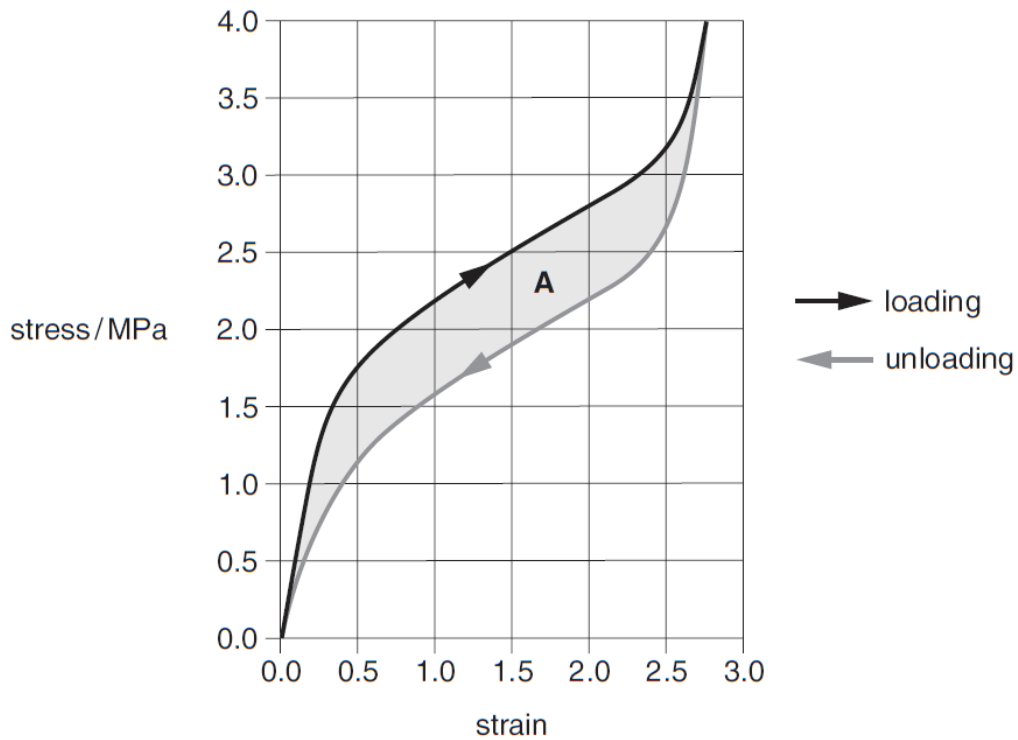

Fig. 9.1
- 9 In an experiment a series of weights are suspended from a rubber band and then removed again one by one. Fig. 9.1 shows the stress against strain relationship for the rubber as it is loaded and then unloaded.
- (b) Use Fig. 9.1 to describe how the stiffness of rubber changes during loading and unloading.
(ii) Suggest the physical quantity that the shaded area **A** inside the loading-unloading loop in Fig. 9.1 represents.